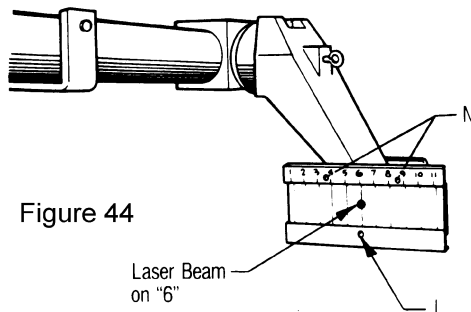

Figure 44
- 3) Level the Toe Gauge and project the laser beam image on the rear Retro-screen. (See Figure 44) The center of the beam image must be on 6 and midway up the mirror. If not, alternately loosen and tighten Allen set screws on the laser diode retainer.
If not, adjust the two screws (M) (See Fig. 44) until the image is on 5 and adjust screw (L) until the image is mid-way up on the Thrust Angle Scale.